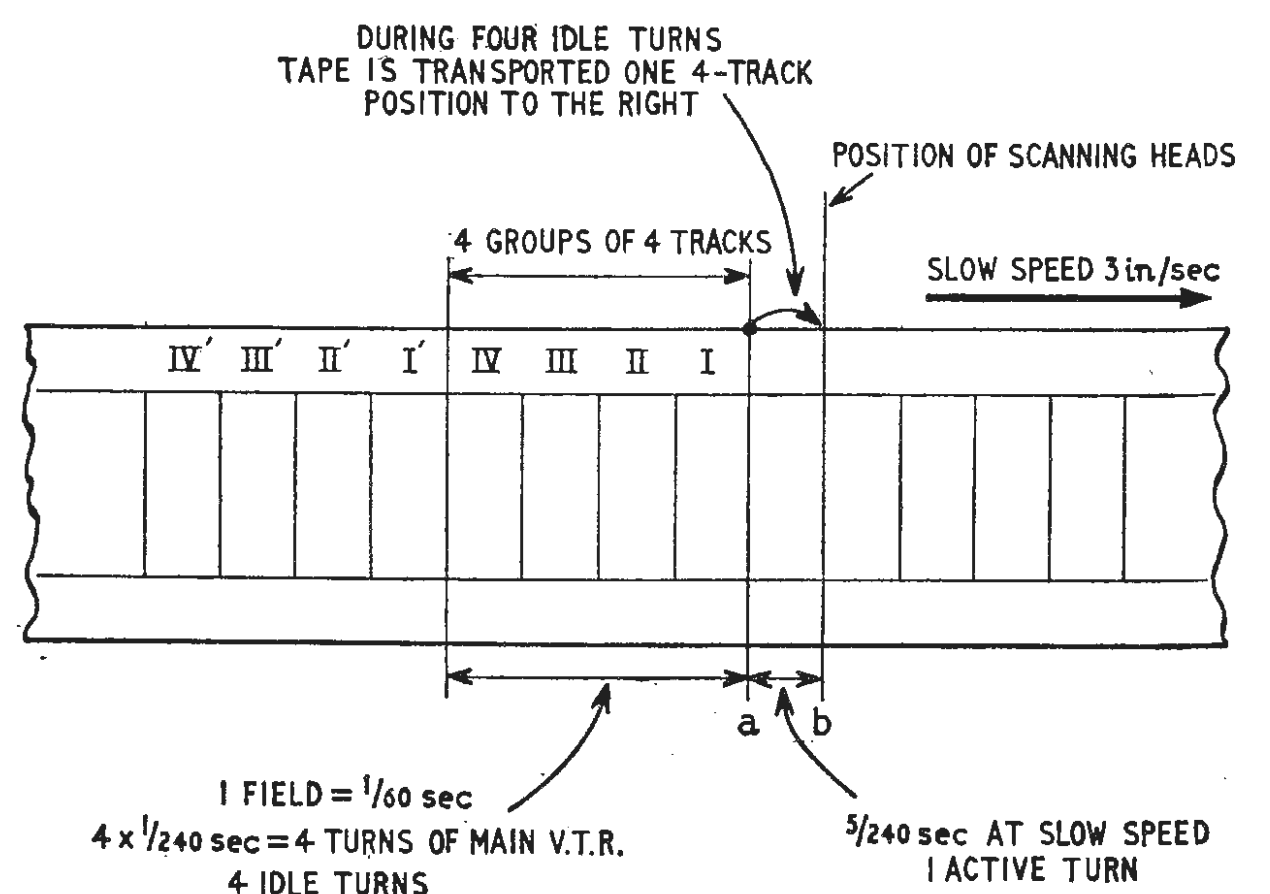

Fig. 3. Showing the action of intermittent scanning with reference to standard tape recording.
**Idle turns.**—By the artifice of the offset heads the effect of a five-fold increase of forward tape speed is achieved. Although the actual tape speed is only 1/5 of normal speed four tracks are scanned in 1/240 sec. The time needed for the next group of four tracks (in the retrograde sense) to move up to the scanning position of head No. 1, from *a* to *b* in Fig. 3, is 5/240 sec., i.e., five turns minus one active turn=four idle turns. This is allowed for by periodic electronic gating of the amplifier.